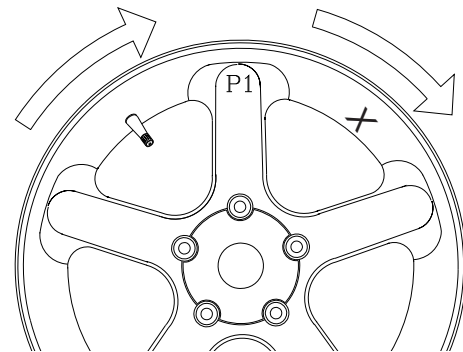

Figure 35
7. The display will read “**SPO 2**”. Locate the second closest spoke to top dead center and rotate the wheel to the top dead center position, press **F** Button again to store the position. See Figure 35.